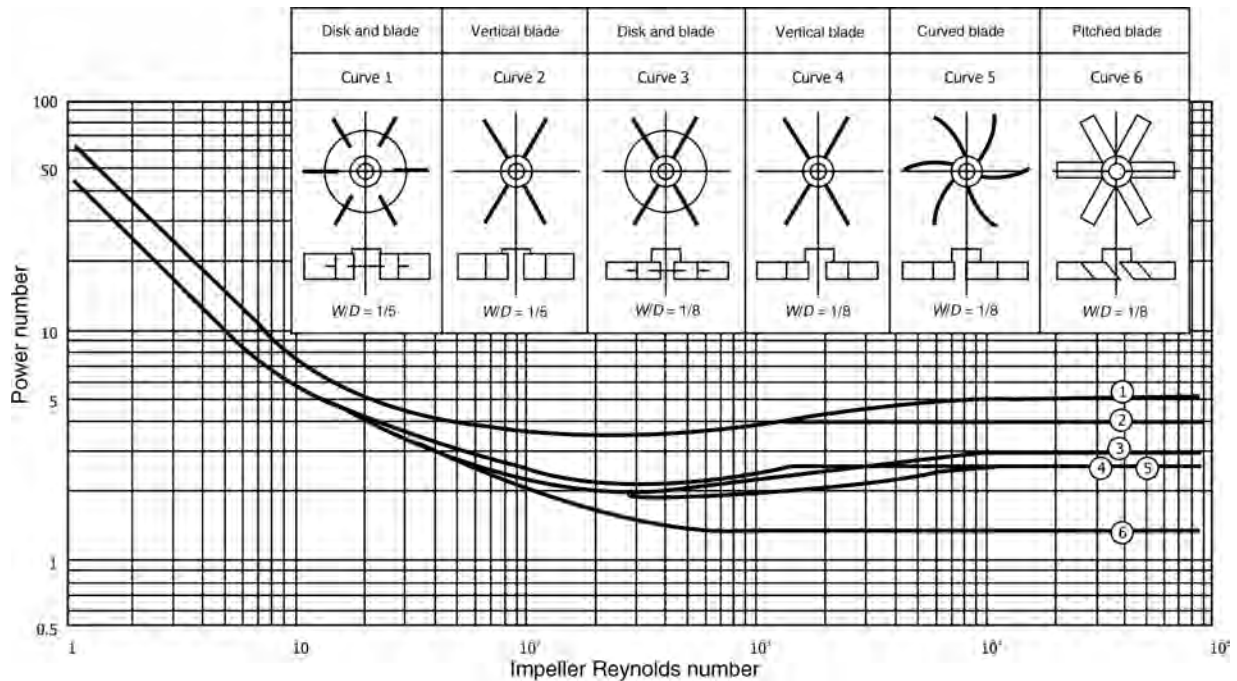

FIGURE 6.1 Power number as a function of Reynolds number for different turbine impellers. D : impeller diameter; W : blade width.
- Figure 6.1 illustrates the relationship between N_{Re} and P_o .